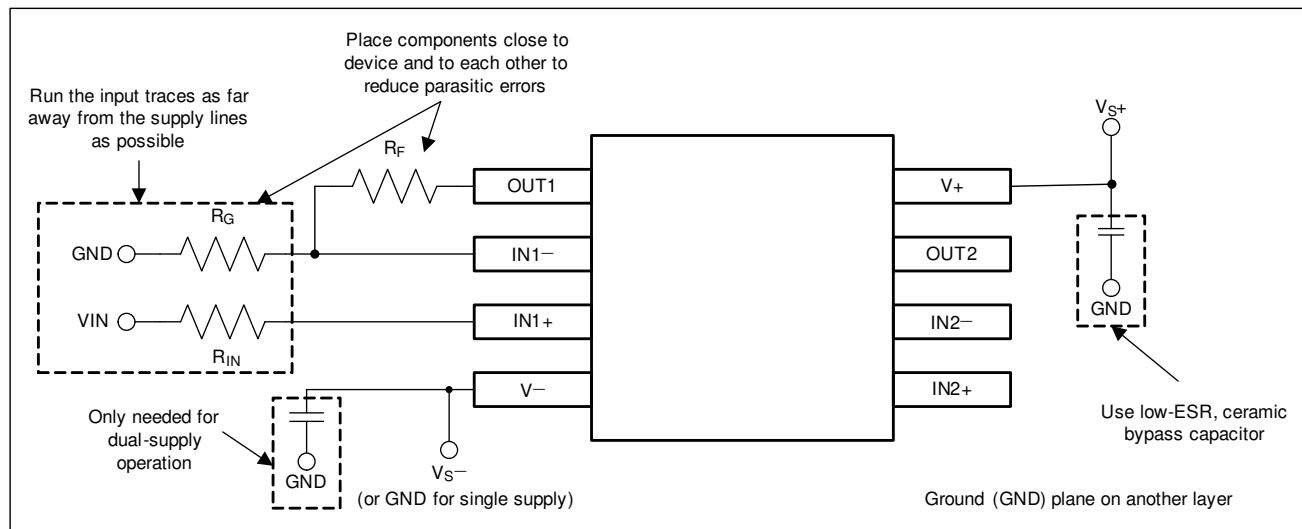

Figure 9-3. Operational Amplifier Board Layout for Noninverting Configuration
- Place the external components as close to the device as possible. Keeping R_F and R_G close to the inverting input minimizes parasitic capacitance, as shown in Figure 9-3.